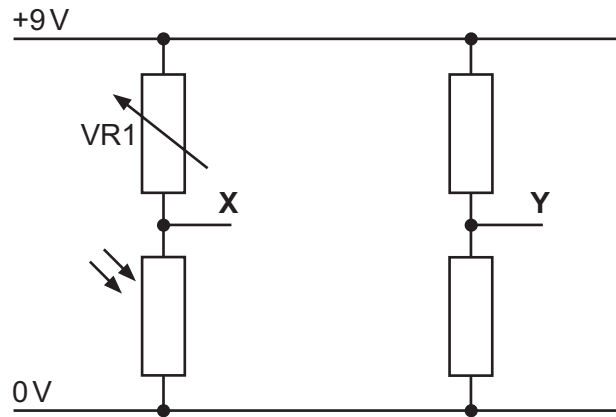

Fig. 12.1
12 (a) Fig. 12.1 shows part of the circuit for an LED night light.
- (iii) Calculate the voltage at point X in Fig. 12.1 when the resistance in VR1 is 110kΩ and the LDR resistance is 243kΩ.
- (iv) The voltage at Y in Fig. 12.1 has been calculated to be 6.9V. When the circuit is tested with real components in a breadboard the voltage Y is measured as 6.7V. Give **two** possible reasons for the calculated and actual values being different.